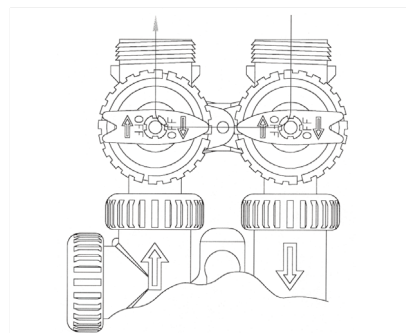

Figure 10: Bypass Mode
2. Confirm that the bypass valve is in the bypass position (see figures 10 and 11 below).